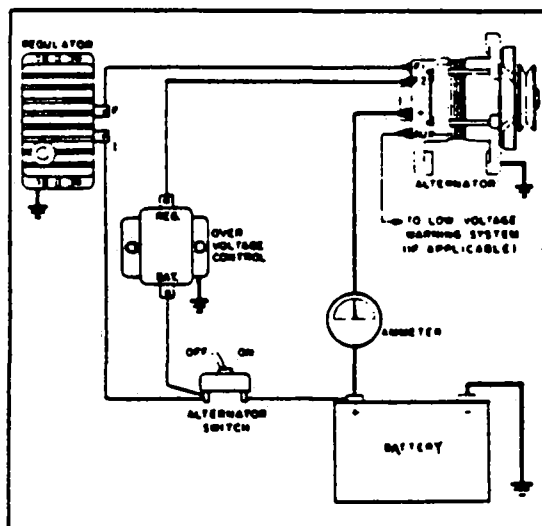

Figure 11-37. Application of Overvoltage Control
c. The relay contacts will remain open until the alternator switch is turned off. Figure 11-37 illustrates the overvoltage control connected in a typical (PRESTOLITE) insulated field alternator.